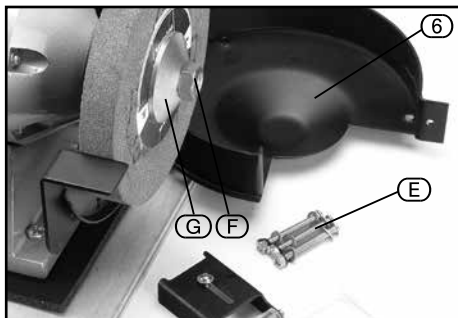

FIG. 6
9.2 REPLACING THE GRINDING WHEELS – FIG. 6